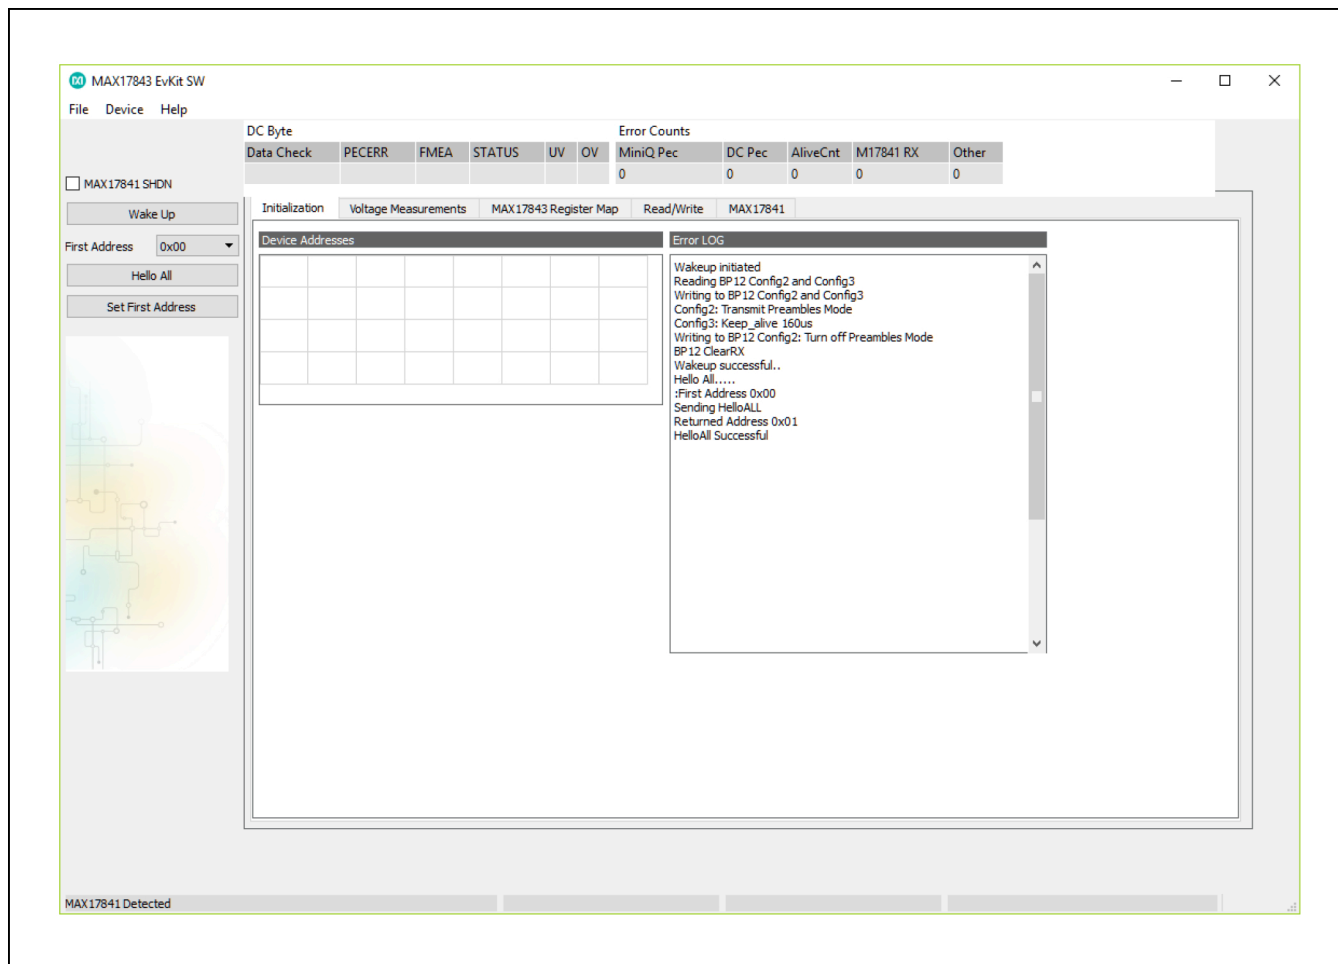

Figure 2. MAX17843 EV Kit Software (Installation Tab—Wake Up and Hello All)
- 16) Click the **Wake Up** button (Figure 2).
- 17) Click the **Hello All** button (Figure 2).
- 4) Select the address of the first device in the daisy-chain from the **First Address** drop-down list above the **Hello All** button (Figure 2), which can usually be left as 0x00.